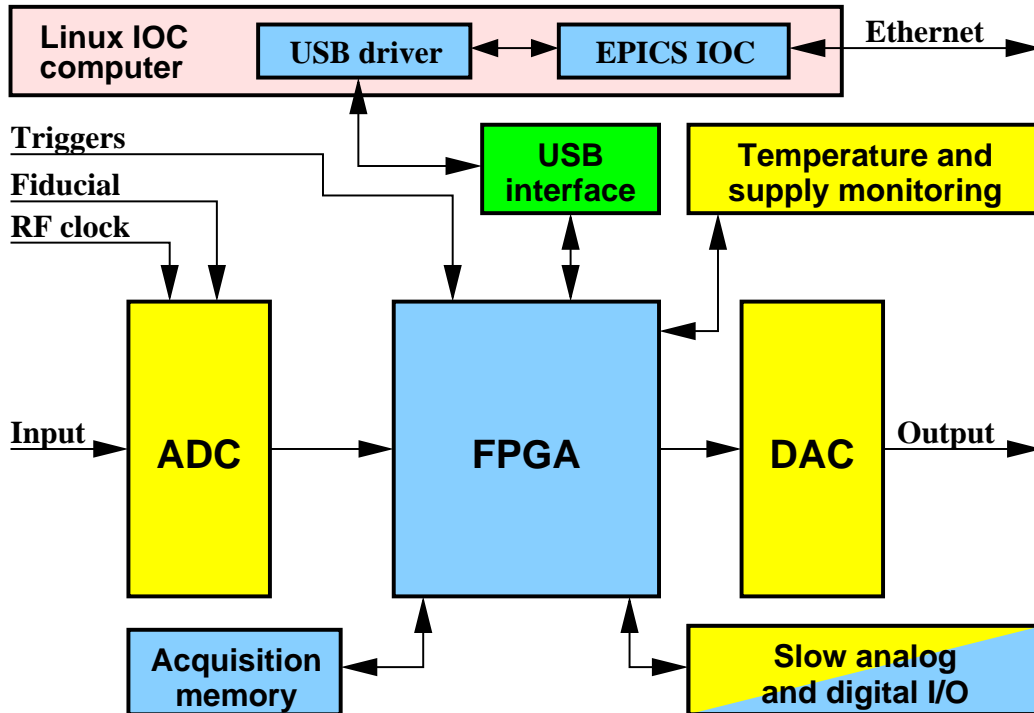

Figure 1: iGp-200F block diagram
A block diagram of the iGp-200F system is shown in Figure 1. The main signal processing chain consists of a high-speed analog-to-digital converter (ADC), a field programmable gate array (FPGA), and a high-speed DAC and is driven by the radio frequency (RF) clock. In addition to performing real-time control computations, the FPGA interfaces to a number of on-board devices, such as high-speed data acquisition memory (static random access memory (SRAM)), low-speed analog and digital input/output (I/O), as well as temperature and supply voltage monitors. In turn, the FPGA uses an internal universal serial bus (USB) connection to communicate to an embedded input-output controller (IOC) computer housed in the same chassis. The IOC runs the Linux operating system and is connected to the overall control system via the Ethernet.